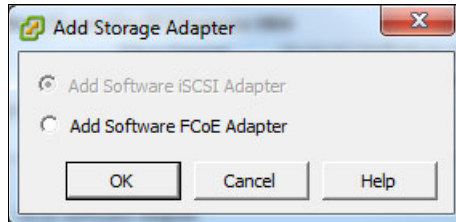

Figure 7-32 Add Storage Adapter
- c. Select **Add Software iSCSI Adapter** and click **OK** (Figure 7-32).